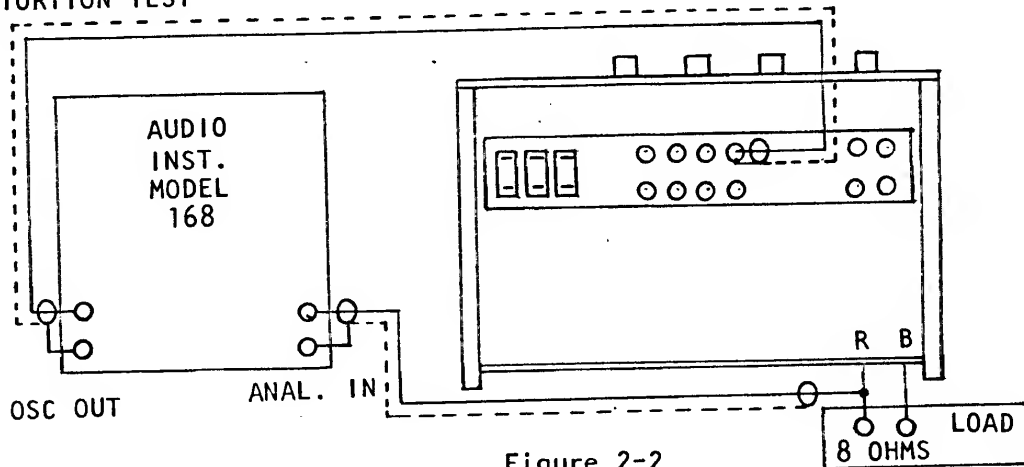

Figure 2-2
2.4.1.2 INTERMODULATION DISTORTION - (Figure 2-2)